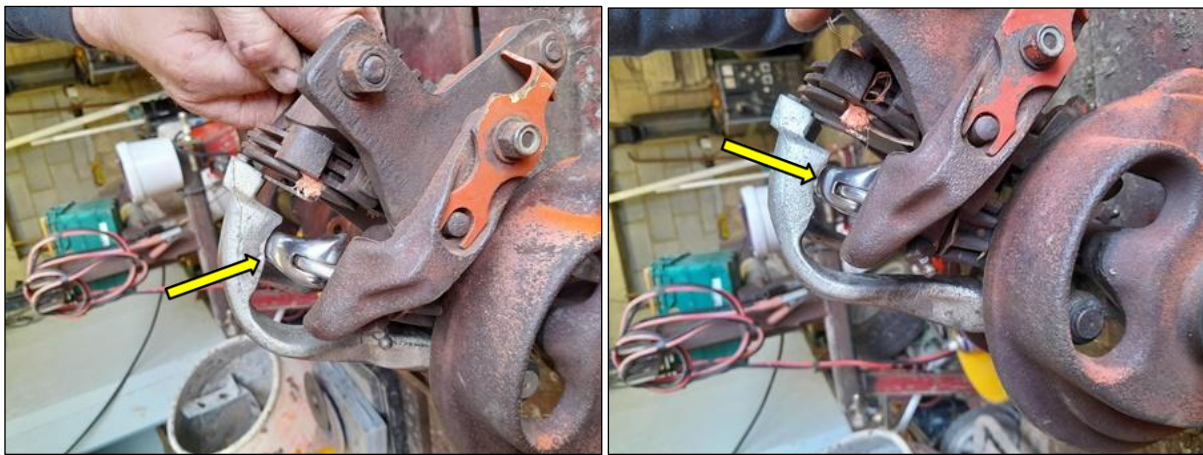

Fig.4.18 The Stripper Arm should rub lightly across the Bill Hook's heel (*left - arrowed*)
- **Excessive Clearance between Stripper Arm and Bill Hook's Heel** (*Fig.4.18*)